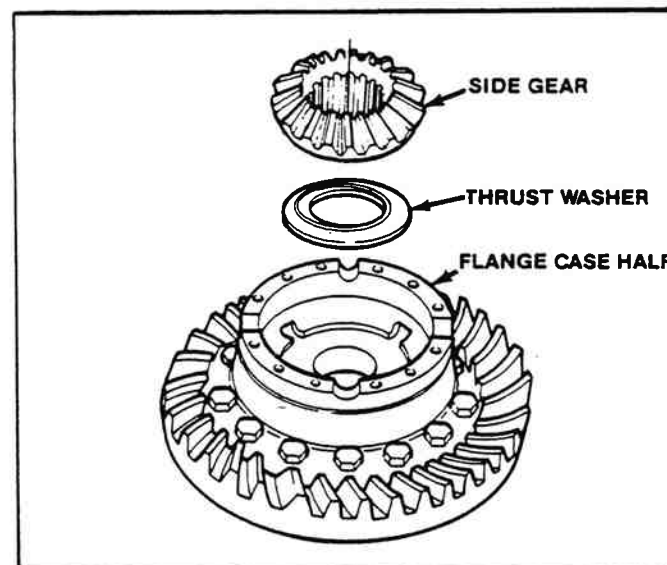

Figure 2-66. Installing Thrust Washer And Side Gear.
11. Install one thrust washer and side gear into the flange case half (Figure 2-66).